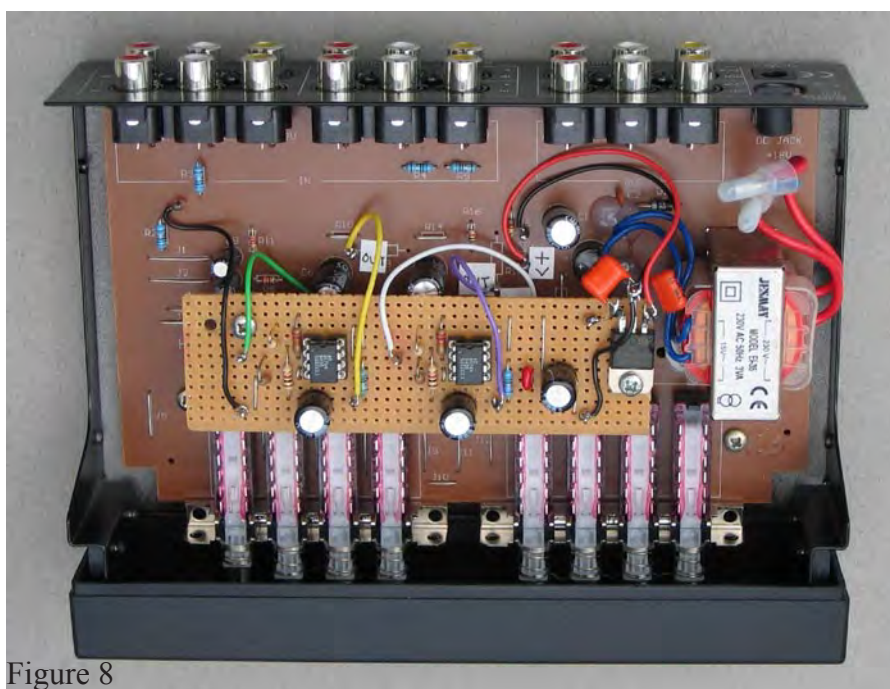

Figure 8
The input and output connections of the original emitter followers on the main PCB are wired to and from the amplifiers, including the DC supply, as listed below. Fig.8. shows the amplifier board installed above the main PCB.
- Fig.8. Op-amps fitted to main PCB